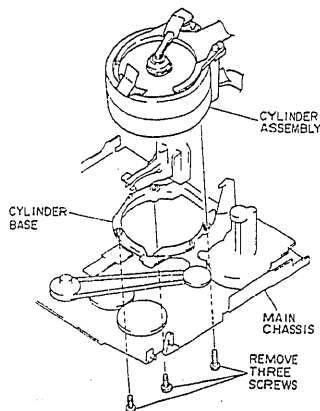

Fig. 2-50
- 1) Remove three (3) screws holding the cylinder assembly. (See Fig. 2-50)